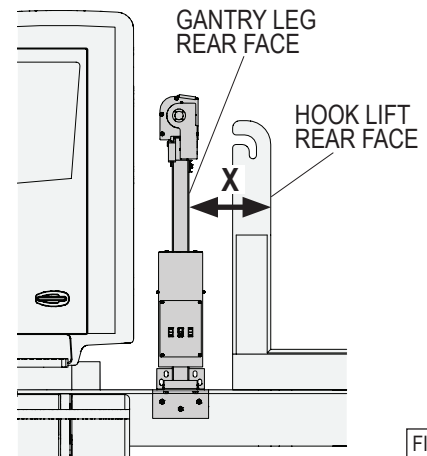

FIG. 120
- Find distance "X" by measuring between the rear face of the gantry leg and the rear face of the hook or roll off stop bracket. See Figure 120.